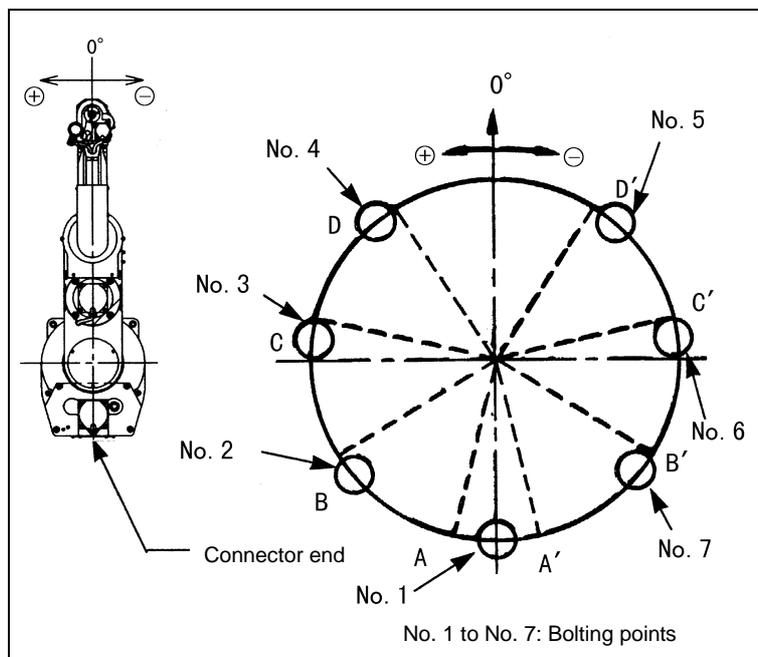

Figure 4-3 Bolting Points on the 1st Axis of HM-D/HS-D Series
On the HM-D/HS-D series, a bolt is screwed in No.1 position (Figure 4-3) at the factory. The bolt serves as a mechanical stop for both the positive and negative mechanical ends. As shown in Figure 4-3 and Table 4-2, the default stroke of the 1st axis is A-A'.
Turn the 1st-axis arm to bring the cutout to a desired mechanical end (see Figure 4-3) and then screw the removed bolt.
**Note 1:** To screw mechanical stop bolt(s) into hole C, C', D and/or D' (Figure 4-3), open the 1st axis cover and turn the axis until the desired inside cutout appears.